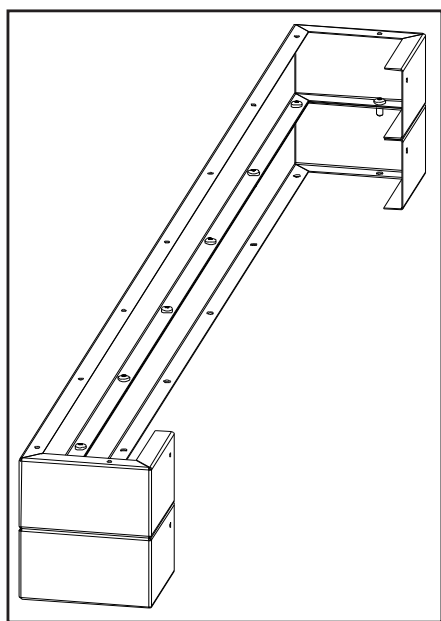

Figure 30a: Combining 2 Base Shelf Riser.
2. When using more than one riser each level must be attached using nine (9) #8 T-20 screws provided (see Figure 30a).